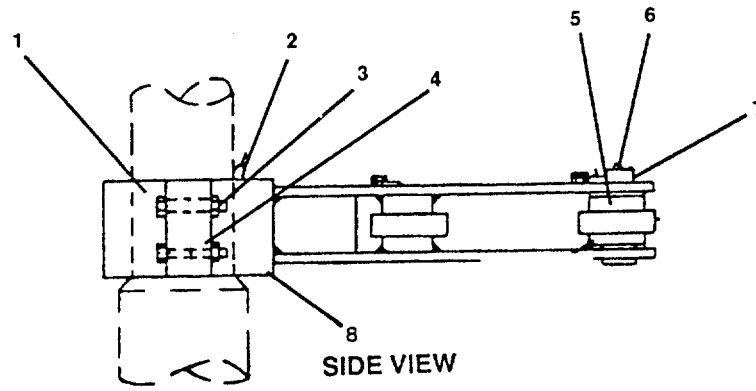

FIGURE 2-4. Tiller Arm Assembly.
**2-13. Repair Tiller Arm Assembly (FIGURE 2-4)**
- a. At hub/shaft interface (1), inspect key (2), and keyway and interface area for broken parts and corrosion.
- b. Inspect hub bolts, nuts and washers (3), and hub joint (4) for broken parts and corrosion.
- c. Inspect jockey bar sleeve bushing (5) and pin (7) for broken parts and corrosion.
- d. Inspect follow-up arm connection (8) for binding, broken parts, and corrosion.
Repair of tiller arm assembly is replacement of lubrication fittings (FIGURE 2-4). Unscrew lubrication fitting (6) and replace with new one.